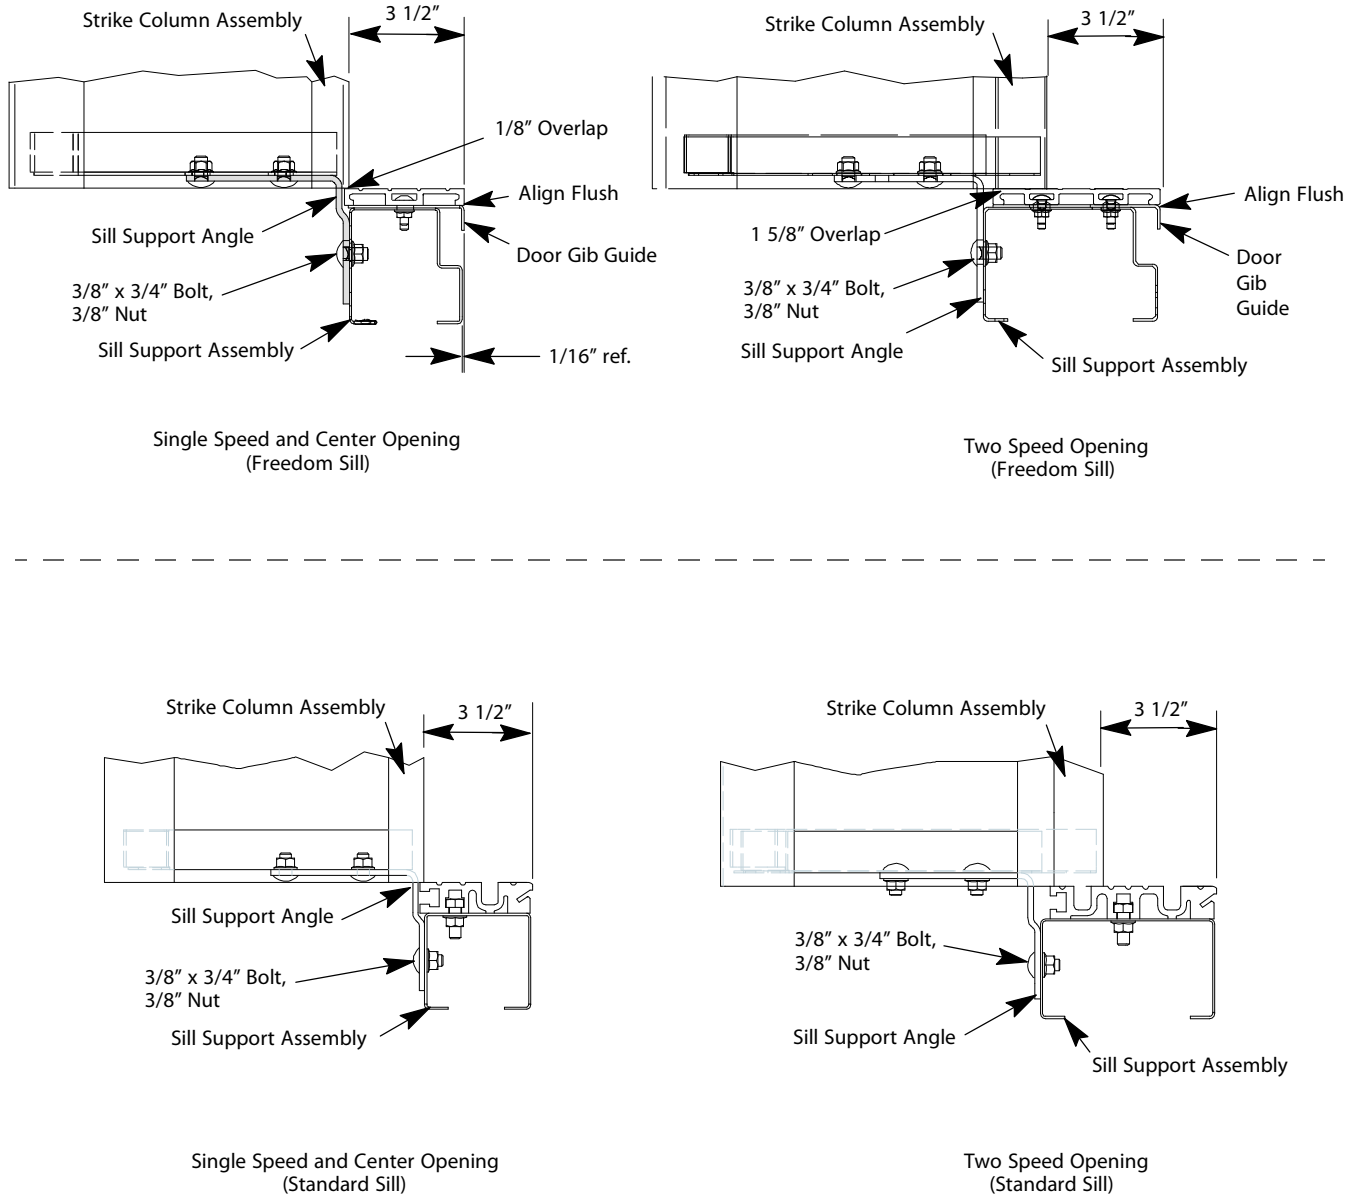

Figure 9 - Sill Support Assembly
3. Attach the sill support assembly to the sill support angles. See Figure 9.